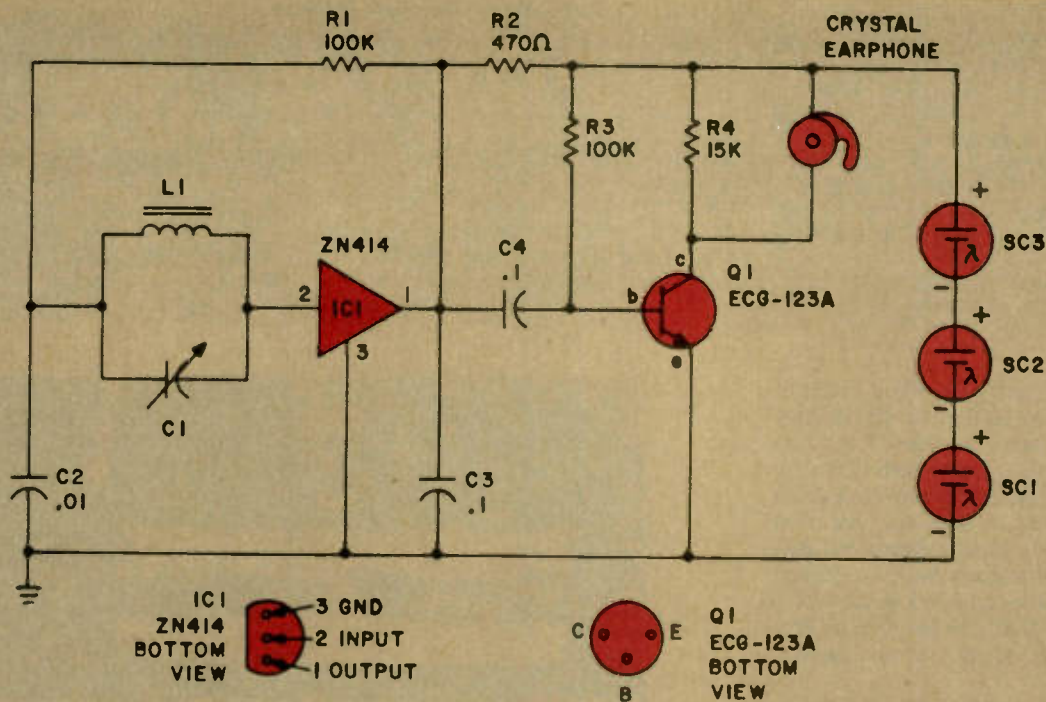

Fig. 2. The actual solar radio circuit with IC1 and Q1. The volume is sufficient to drive a crystal earphone.
(L1) and capacity tuning section (C2). See Fig. 2. The ferrite rod antenna coil should be as long as possible. No additional antenna is needed for this solar radio. On strong local stations the antenna or container may be turned to lower the signal if needed. Sometimes a strong radio station may take up a large share of the tunable band.
The desired station is selected by L1 and C1. This RF signal is fed into the input terminal (2) of IC1 (Fig. 2). Here the tuned RF signal is amplified and detected with excellent audio signal at output terminal (1). The stator (stationary) plates of C1 should be connected to the input terminal of the IC1. Capacitor C4 couples the audio signal to audio driver transistor. Here the audio signal is amplified with a single earphone piece tied to the collector terminal.
**About The Circuit.** The easiest way to achieve a dynamic variable load (DVL) is using a transistor. In figure 2, the solar cell is connected across the emitter and collector. As current is metered through the base, the VCE changes—loading the cell accordingly.